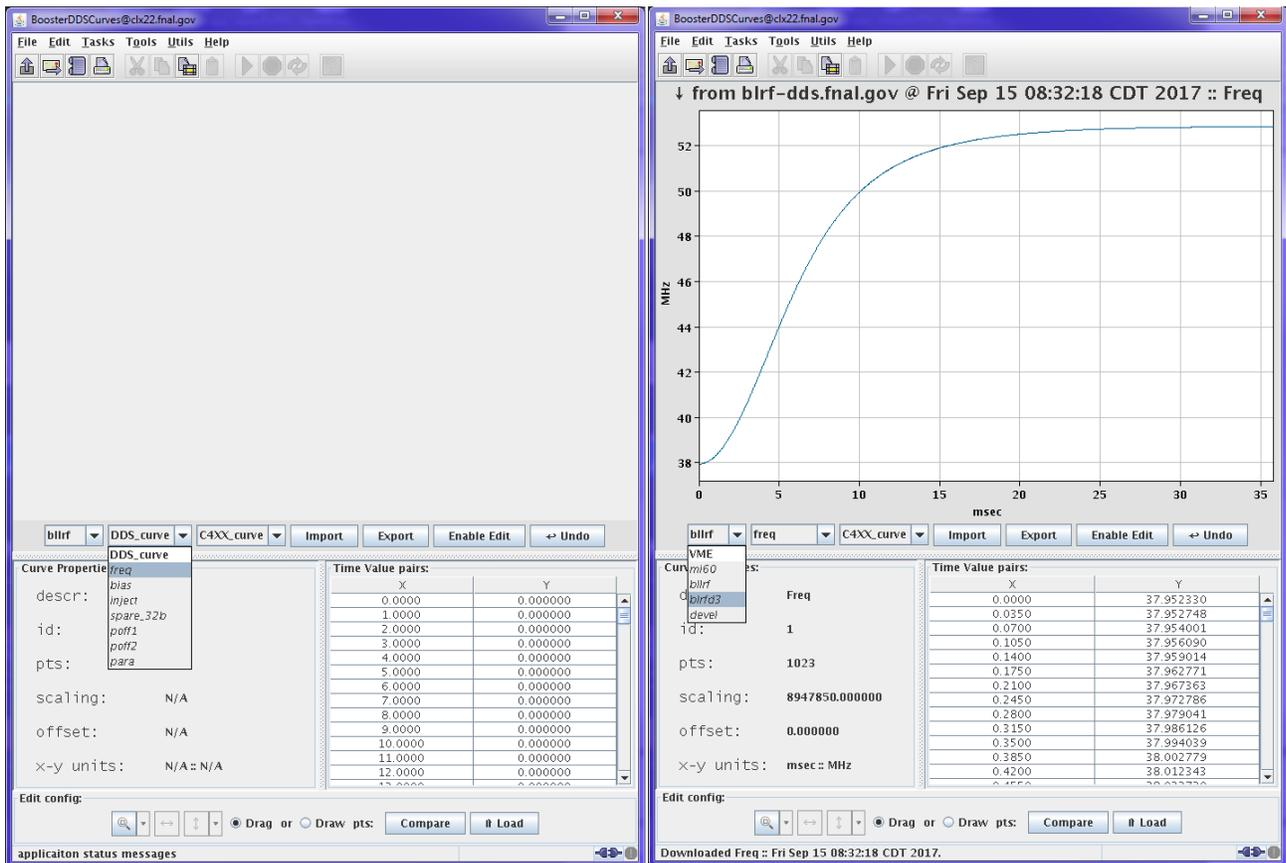

Figure V.3 Curve Editor Application B30.
2. When started, the application is as in the left pane of Figure V.3. The left-most pull-down menu will indicate that we are targeting the VME DDS module in the LLRF Room, running the Booster (so be careful).
4. As shown in the right pane of Figure V.3, select “blrfd3”, then load the Frequency Curve retrieved from “bllrf” into “blrfd3” by clicking the button near the bottom of the application window labeled “Load”.